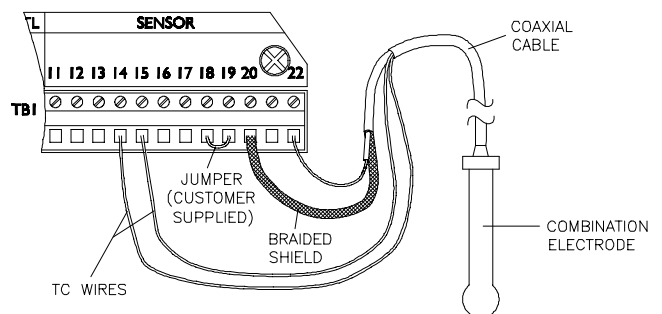

FIGURE 2-8 Connecting Conventional Combination Electrode to Analyzers with “A” or No Letter Prefix Serial Number
- Terminals 18 and 19 for analyzers with “A” or no letter prefix serial number (Figure 2-8).
- Terminals 14 and 15 for analyzers with “A” or no letter prefix serial number (Figure 2-8).